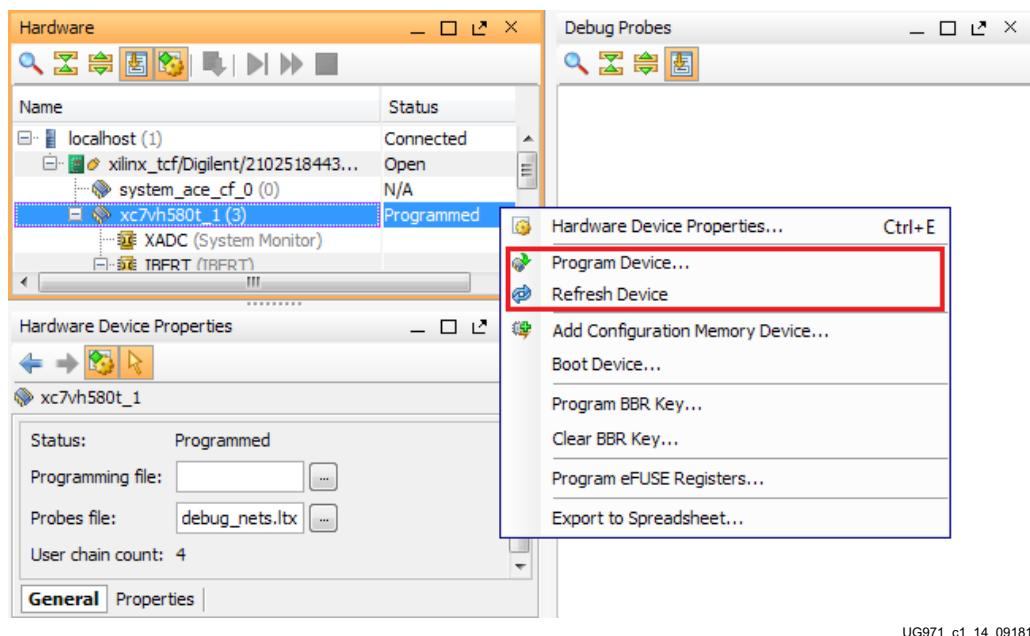

Figure 1-14: Program/Refresh Device
2. In the Hardware window, right-click **XC7VH580T_1** and select **Refresh Device** (Figure 1-14).